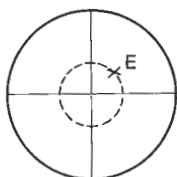

Fig. 13
- 1) Place a specimen on the stage, and insert two centering wrenches ① into the stage centering screws (Fig. 13). Looking through the eyepiece and objective 10X, fix your eyes on some particular point, for instance, at the point A or the center of the cross hairs.
- 4) Coincide the particular point to the point E by means of the two centering wrenches ① (Fig. 13). (Diag. b)